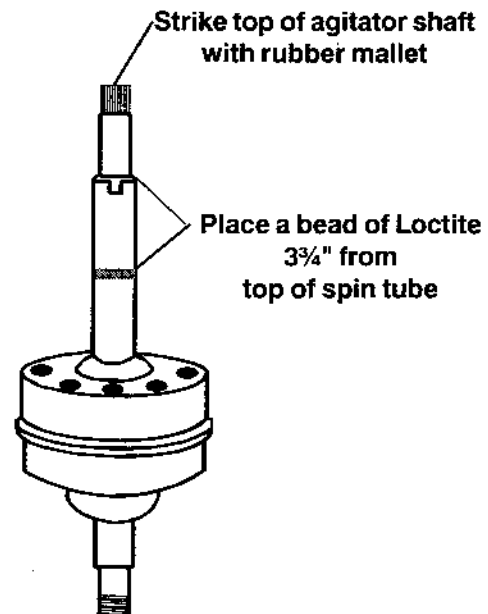

Fig. 36
Refer to Figure 36 for these procedures.
4. When replacing the gearcase a small bead of Loctite should be applied approximately $3\frac{3}{4}$ " from the top of the spin tube. (Fig. 36)